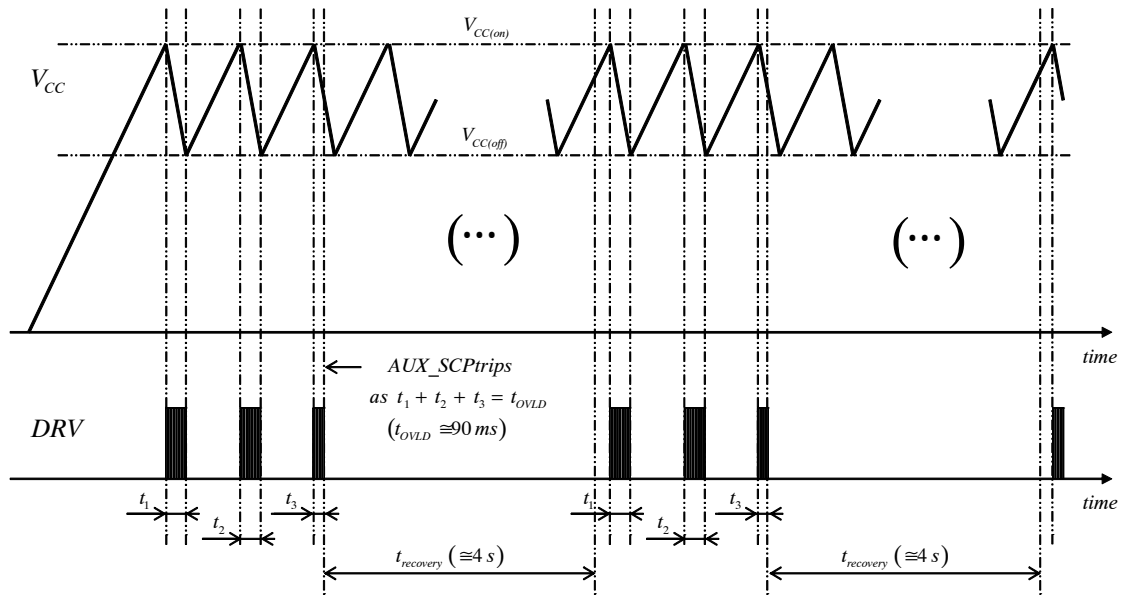

Figure 60. Start-up Sequence in a Load Short-circuit Situation (auto-recovery versions)
- If the load is shorted, the circuit will operate in hiccup mode with V_{CC} oscillating between $V_{\text{CC(off)}}$ and $V_{\text{CC(on)}}$ until the AUX_SCP protection trips (AUX_SCP is triggered if the ZCD pin voltage does not exceed 1 V within a 90-ms operation period of time thus indicating a short to ground of the ZCD pin or an excessive load preventing the output voltage from rising). The NCL30186A and NCL3006C latch off in this case. With the B and D versions, the AUX_SCP protection forces the 4-s auto-recovery delay to reduce the operation duty-ratio. Figure 60 illustrates a start-up sequence with the output shorted to ground, in this second case.